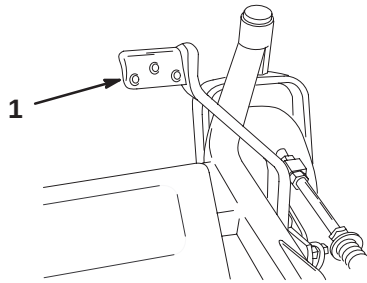

Figure 14
2. Press on lift assist while pulling up on height-of-cut lever (Fig. 14).